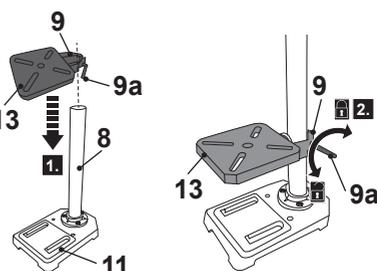

Fig. 2
2. Slide the clamp (9) of the drill table (13) onto the column (8) (Fig. 2, step 1). Position the drill table (13) to the required height.
3. Align the drill table (13) with the base (11).
4. Hand-tighten the clamping lever (9a) clockwise to secure the drill table (13) in place (Fig. 2, step 2). Do not overtighten.